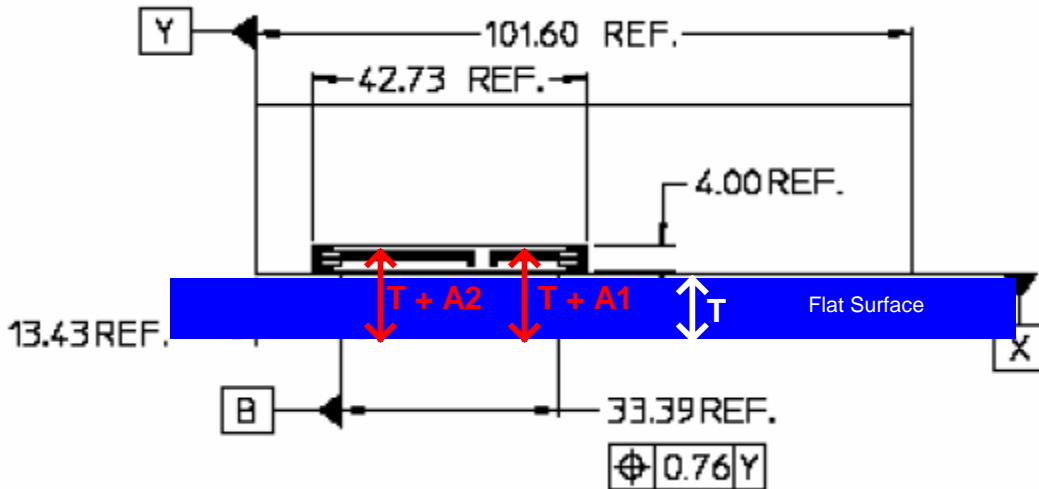

Figure 11
3. At the rightmost part of the plug (see Figure 11), measure the distance from the top of the tongue of the SATA plug to the bottom of the flat surface. Record this value as  $T+A1$ .
4. At the leftmost part of the plug (see Figure 11), measure the distance from the top of the tongue of the SATA plug to the bottom of the flat surface. Record this value as  $T+A2$ .